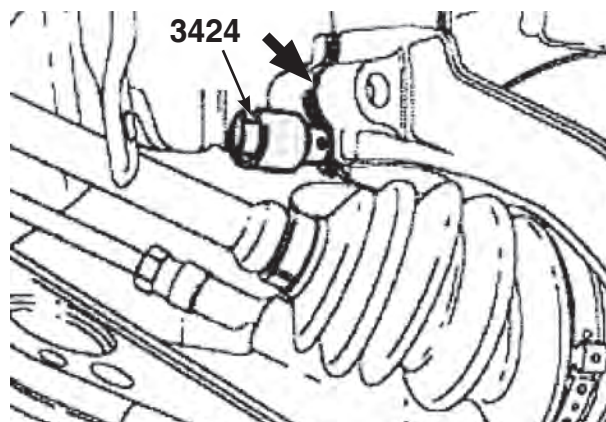

fig. 3
6. Spread the hub assembly slot and push down on the hub to release the strut from its lower mount. (fig. 3 - Volkswagen-specific tool is spreader 3424)